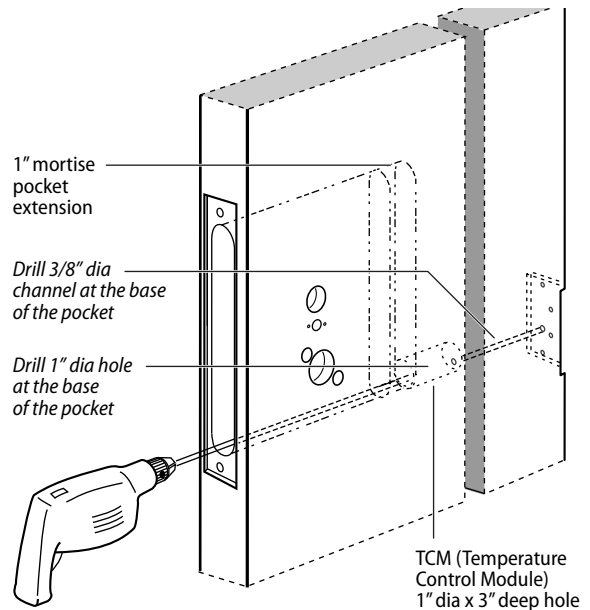
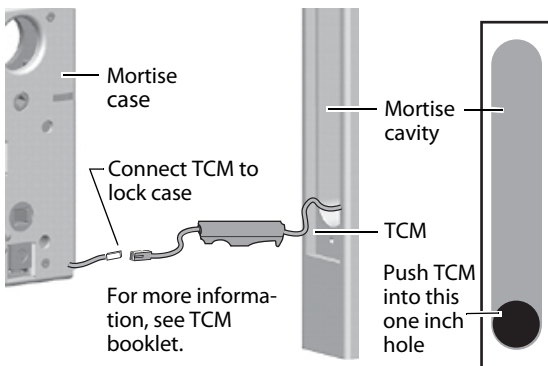

Figure 4 Drilling the wire channel through the door
Figure 11 Connecting and positioning TCM
- 2 Extend the mortise pocket one inch as shown in Figure 4.
- 3 Drill a one inch diameter × three inch long hole at the base of the mortise pocket as shown in Figure 4.
- 4 Using a 3 to 4 foot drill bit, drill a 3/8" diameter channel from the base of the one inch diameter hole at the base of the mortise pocket to the center of the nearest hinge mortise as shown in Figure 4.
- 1 Connect the Temperature Control Module (TCM) to the lock as shown in Figure 11.
- 2 Fish the TCM wires through the door channel, making sure to position the TCM inside the one inch diameter hole extension at the base of the mortise cavity as shown in Figure 11. See also Figure 4.